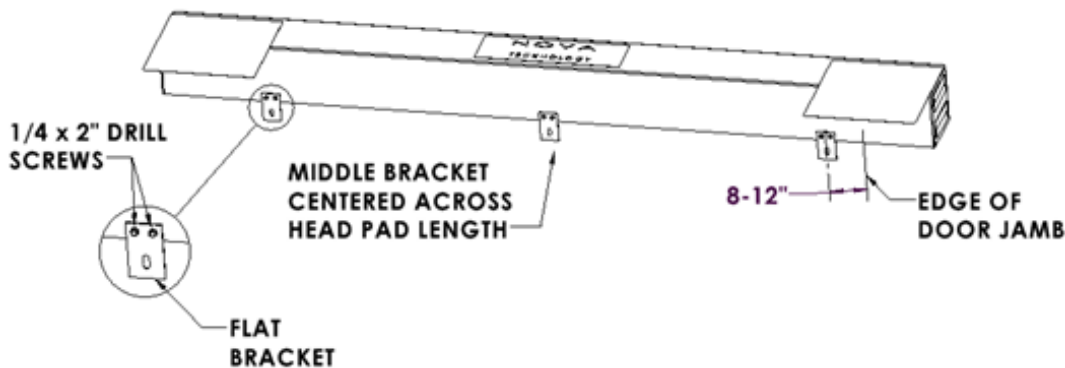
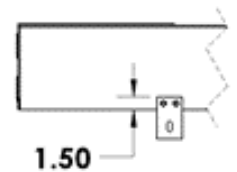

FIGURE 10
FIGURE 11
**7. MOUNT LEFT SIDE PAD (C) TO WALL:** Same process as Right-Side Pad mounting.
**8. ATTACH MOUNTING BRACKETS TO HEAD PAD (E):**
- a. Mount (3) Flat Brackets (J) to the bottom side of the Head Pad (E) as shown (Figure 10 & Figure 11). The middle flat bracket will be centered across the length of the Head Pad. The end brackets should be positioned 8-12" inside each left and right-side door jamb. All (3) Flat Brackets mount 1 1/2" from the back face of the Head Pad as shown (Figure 11). Ensure the new screw locations are not in line with the existing screws on the bottom side of the Head Pad. In rare instances, the Head Pad will mount above the top of the door opening. These instances will use (3) Offset Brackets (K) instead of the (3) Flat Brackets (J) to connect the Head Pad above the door frame opening (see Fig 8 for reference).